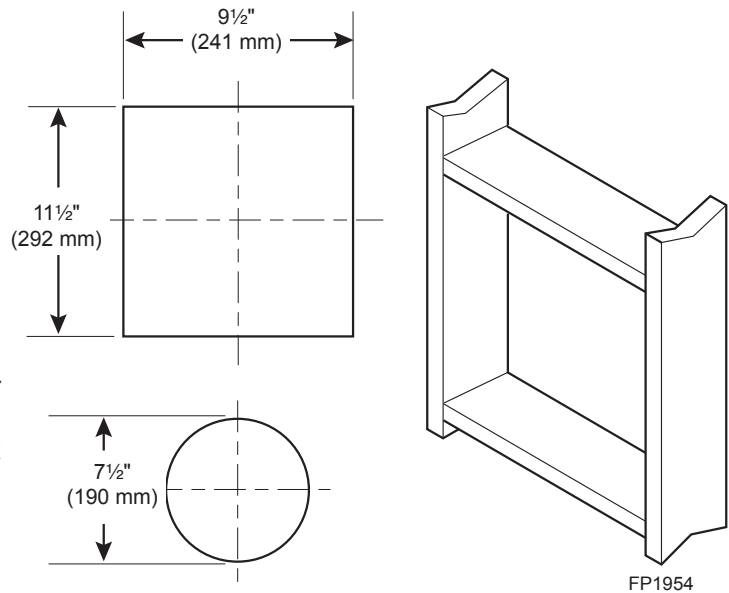

Figure 16 - Vent Opening Requirements
Combustible Walls: Cut a 11½"H x 9½" W (292 x 241 mm) hole through the exterior wall and frame as shown. *Figure 16*
3. Attach vent pipe assembly to the fireplace. Set fireplace in front of its permanent location to insure minimum clearances. Mark the wall for a 11½"H x 9½"W (292 x 241 mm) rectangle hole (for noncombustible material such as masonry block or concrete, a 7½" [190 mm] diameter hole is acceptable). *Figure 16*. The center of the hole should line up with the center line of the horizontal rigid vent pipe end. Be sure to allow for minimum rise. Cut a 11½"x9½" rectangle hole through combustible exterior wall (7½" diameter hole if noncombustible). Frame as necessary. Allow 1/4" minimum rise per foot. *Figure 16*
1. Establish vent hole through the wall. *Refer to Page 20, Figure 16*
3. Cut a hole in the roof using the locating hole as a center point. (Cover any exposed open vent pipes before cutting hole in roof). The 9½" x 9½" (241 x 241 mm) hole must be measured on the horizontal. Actual length may be larger depending on the pitch of the roof. There must be a 1" minimum clearance from the vent pipe to combustible materials. (Insulation should be considered a combustible material) Frame the opening as shown on Page 20, Figure 16.